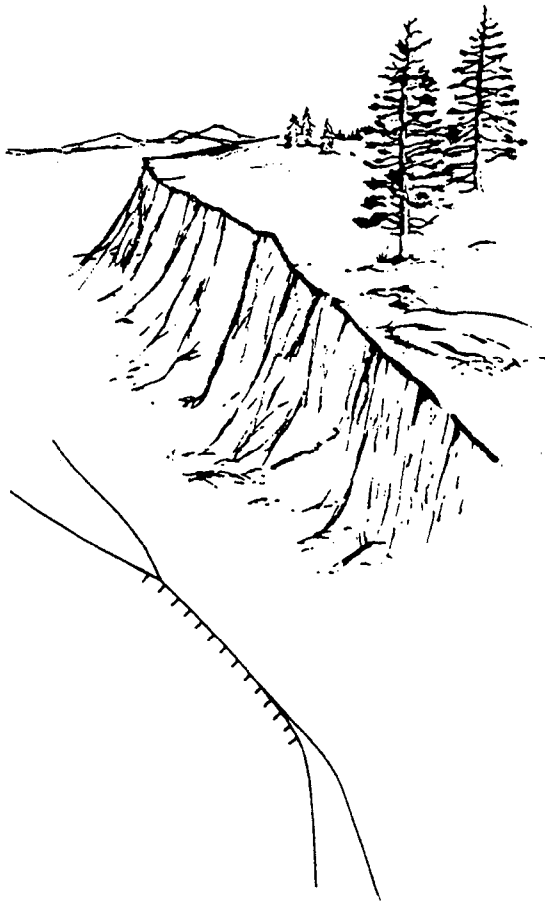

Figure 5-15.—Cliff.
7. CLIFF. A cliff is a vertical or near vertical slope (fig. 5-15). When a slope is so steep that it cannot be shown at the contour interval without the contours coming together, it is shown by a ticked “carrying” contour or contours. The ticks always point toward lower ground.